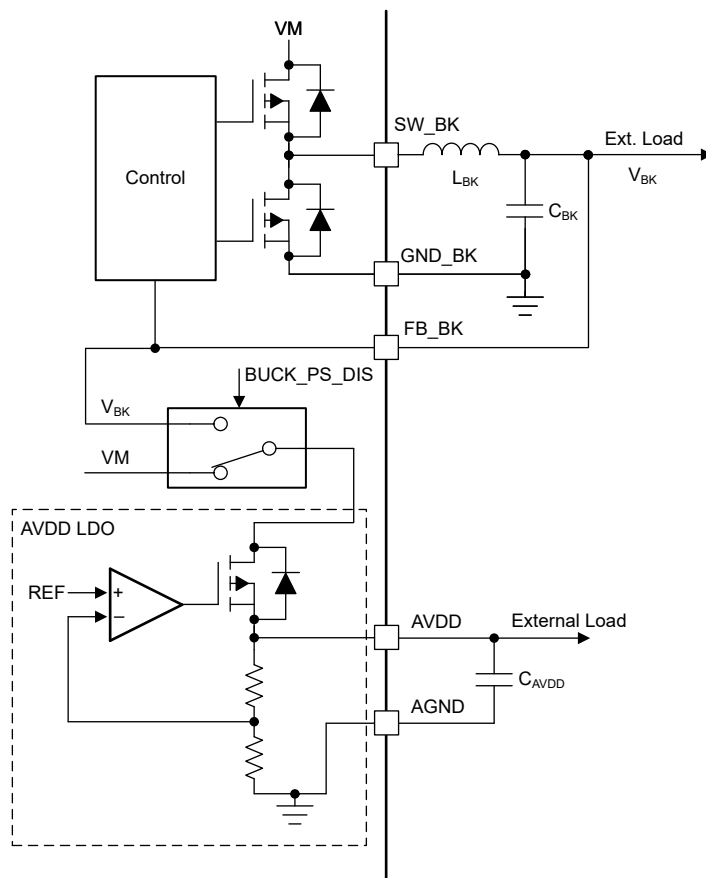

图 7-5. AVDD Power Sequencing from Mixed Mode Buck Regulator
The AVDD LDO has an option of using the power supply from mixed mode buck regulator to reduce the device power dissipation. The power sequencing mode allows on-the-fly changeover of AVDD LDO input from DC mains (VM) to buck output ( $V_{BK}$ ) as shown in 图 7-5. This sequencing can be configured through the BUCK\_PS\_DIS bit. Power sequencing is supported only when buck output voltage is set to 5-V or 5.7-V.